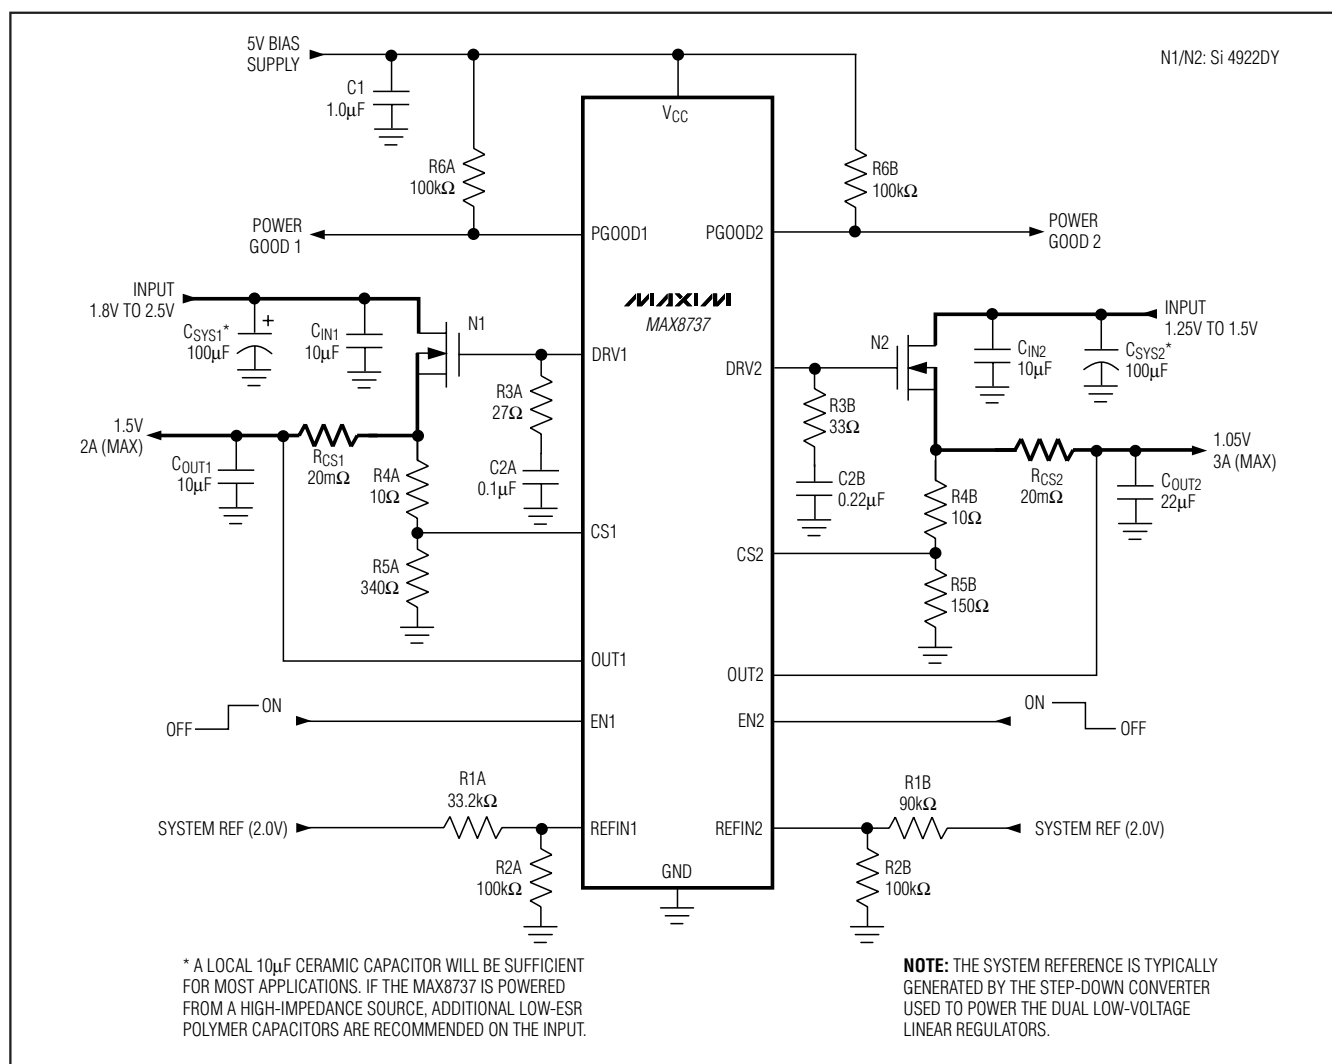

Figure 1. Typical Operating Circuit with Current Limit
(Circuit of Figure 1,  $T_A = +25^\circ\text{C}$ , unless otherwise noted.)
The MAX8737 features a current limit that monitors the voltage across the current-sense resistor, which limits VCS1 - VOUT1 to 10mV (typ). However, in case of a short-circuit condition, the power dissipation across the external FET will be extremely high. To protect the external FET, the MAX8737 uses an external resistive divider (see Figure 1) to fold back the current limit, reducing the overall power dissipation. The foldback
**Example:** The example below is used to demonstrate the stability calculation for the application circuit in Figure 1.